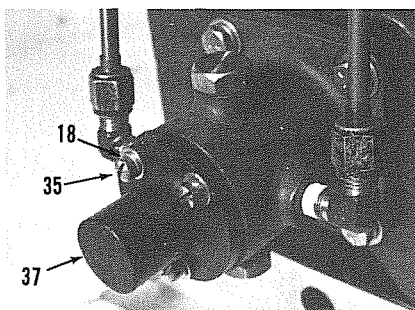

Figure 7-29, End cap installed.
7.5.5 With above testing completed and adjustments verified, install end cap (37) with three each lock nuts (18) and screws (35) on air valve housing (45). See Figure 7-29.